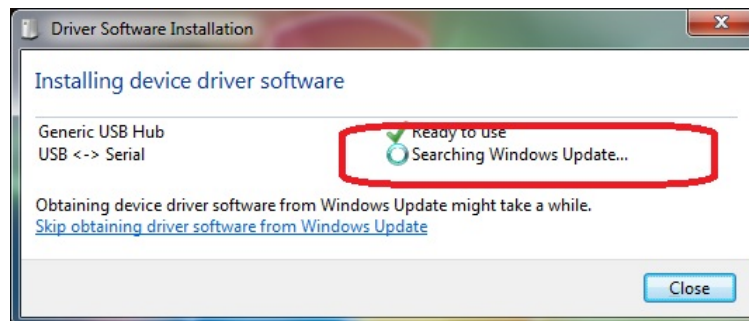

Fig. 2
3. The program goes 'Searching Windows Update' from 'Driver Software Installation'. (Fig. 2)